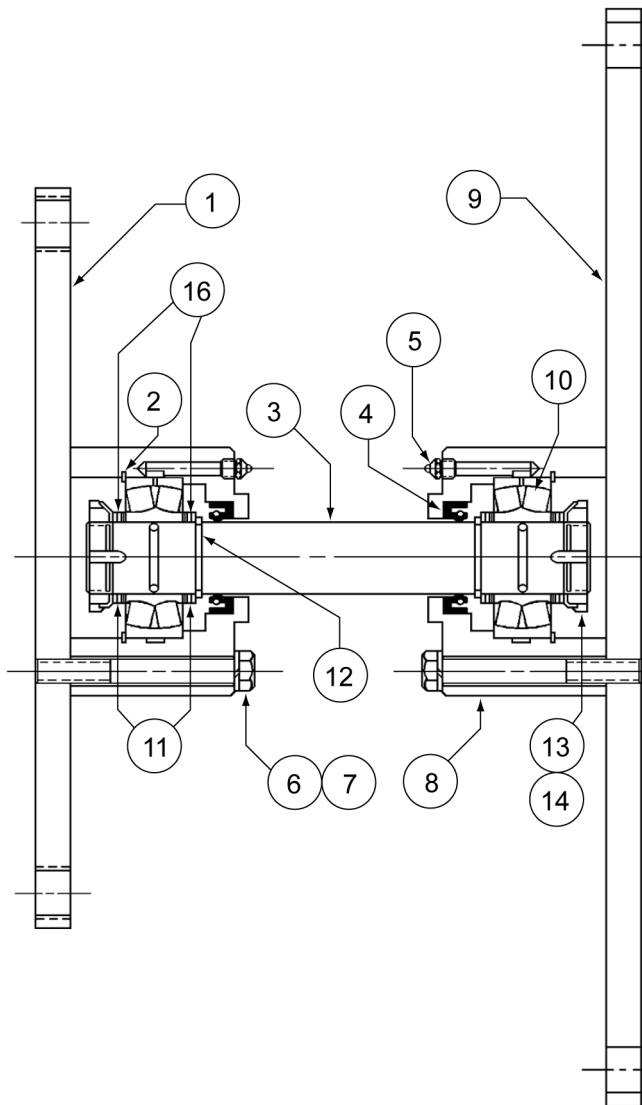

Figure 6
- 2.5.3 Referring to **Figure 6**, the overall length of the axial locking device can be adjusted by relocating shims (11,16) from one side of a bearing to another.